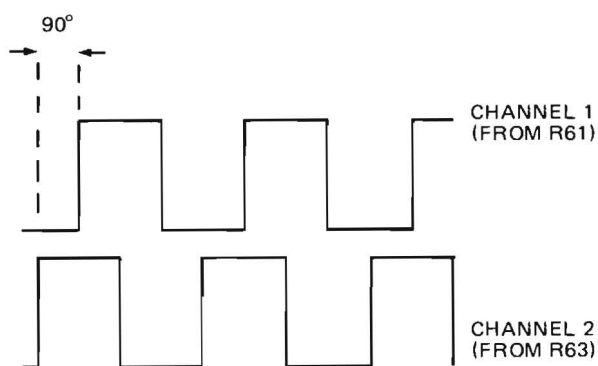

FIGURE 5-9. CORRECT TACHOMETER OUTPUT IN PLAY MODE
6. Observe the scope (you are watching the tach photo interrupter output). The lower trace (square wave) should lead the upper trace by 90° (Refer to figure 5-9). If this is not the case, you will need to physically adjust the position counter tachometer board.